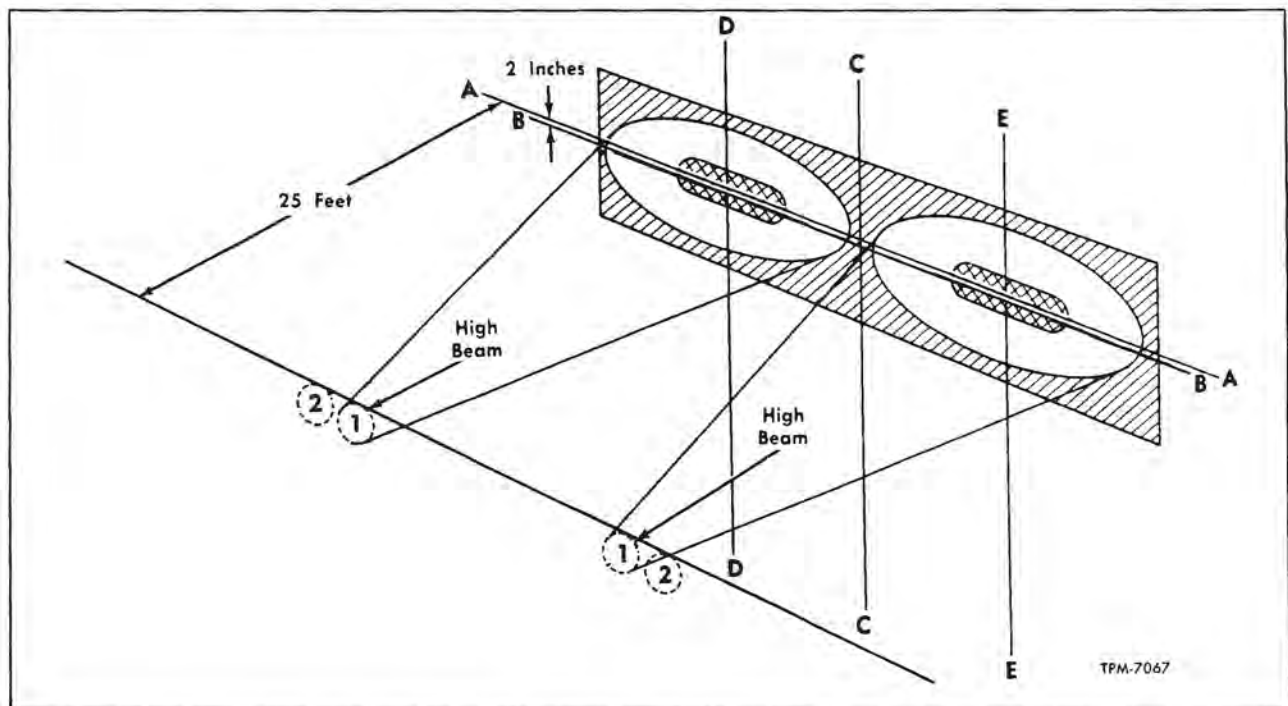
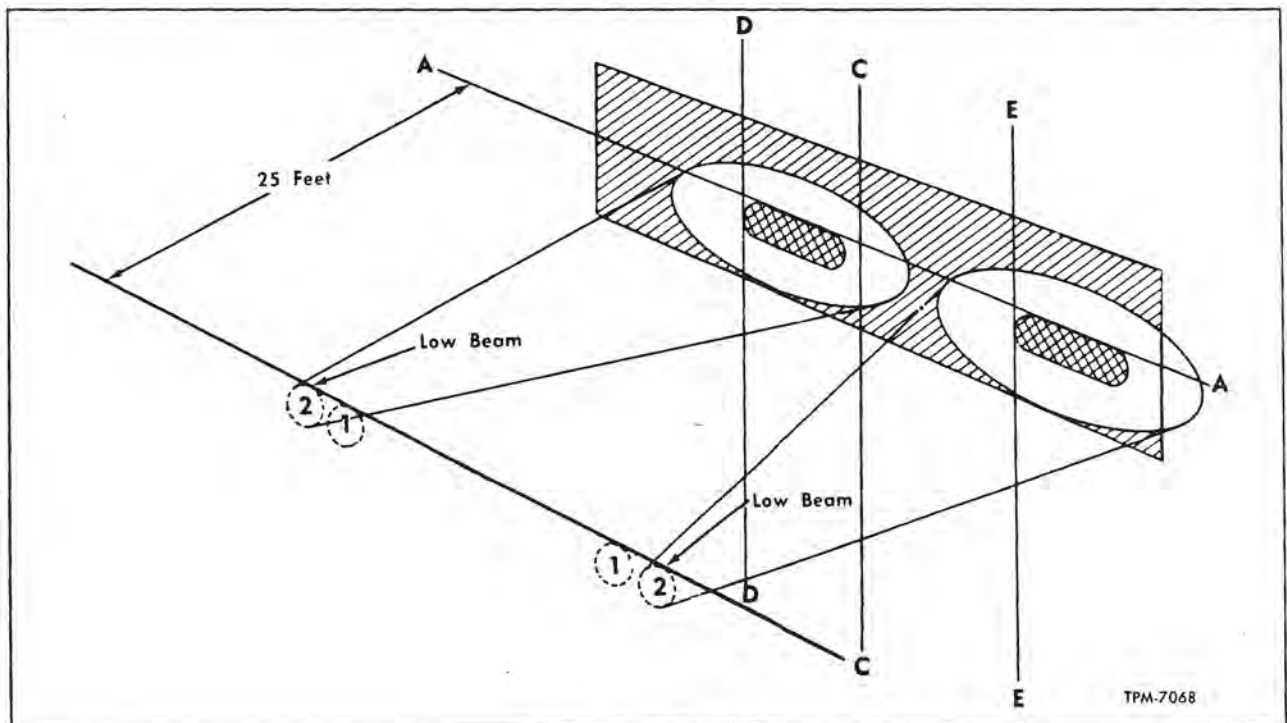

Figure 2—Inner Light (High Beam) Aiming Chart
Figure 4—Outer Light (Low Beam) Aiming Chart
##### Inner (High-Beam) Lights (Fig. 2)
8. Remove paper or panel from vertical surface to permit drawing aiming lines for outer lights. NOTE: Lines A-A and C-C in figure 2 are in same location for figure 4 and can be located on vertical surface in same place by taking measurements from the removed paper or panel.
### Outer (Low Beam) Lights (Fig. 4)